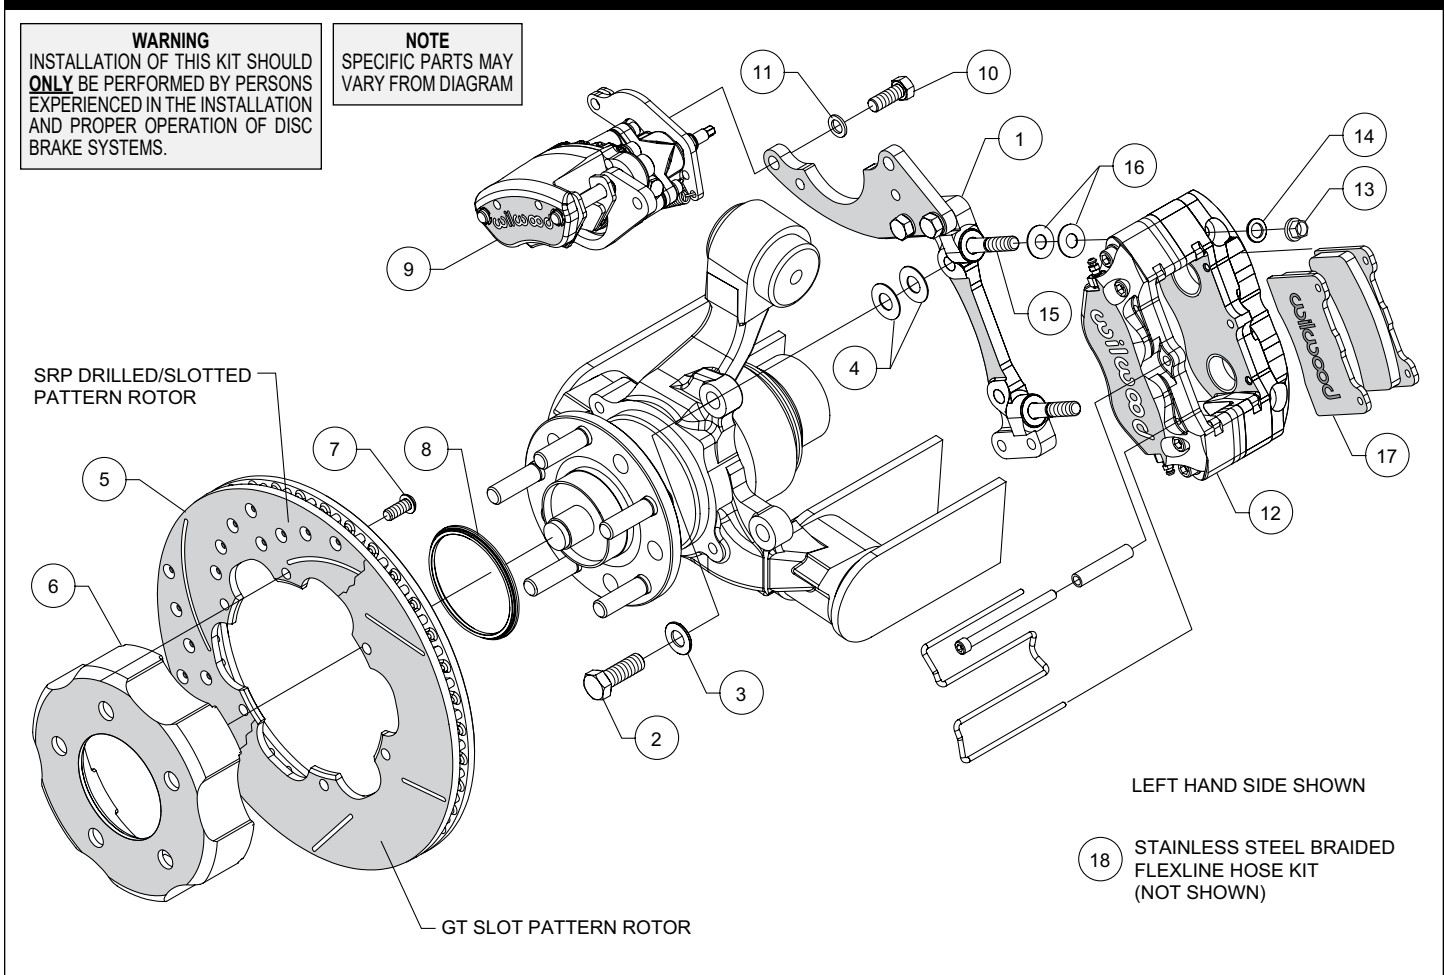

Figure 1. Typical Installation Configuration
NOTE: Numbers in parenthesis refer to the parts list and Figure 1 on the preceding pages.
•The caliper mount bracket (1) should initially be installed with clean, dry threads on the mounting bolts. Orient the bracket as shown in Figure 1, and Photo 1, and install using bolts (2) and washers (3). Initially place two .033" thick shims (4) on each bolt between the bracket and upright, Figure 1. Temporarily tighten the mounting bolts. **NOTE:** The bracket must fit squarely against the mount bosses on the upright. Inspect for interference from casting irregularities, machining ridges, burrs, etc. Later, after the caliper alignment has been checked, the mount bolts will be secured using red *Loctite*® 271.
•Orient the rotor (5) and the hat (6) as shown in Figure 1 and Photo 2. Attach rotor to hat using bolts (7). Apply red *Loctite*® 271 to the bolt threads and torque to 25 ft-lb using a criss-cross pattern.
•Slide the rotor registration adapter (8) onto the axle register on the hub assembly with the smaller O.D. facing outward, Photo 3. Slide the hat/rotor assembly (5/6) onto the axle hub. **NOTE:** The hat must fit flush against the axle hub flange or excessive rotor run out may result. Install three lug nuts (finger tight) to keep the hat/rotor assembly in place while continuing with the installation, Photo 4.
•Initially place two .035" thick shims (16) on each stud (15) as shown in Figure 1 and Photo 5. Mount the caliper (12) onto the bracket (1) using lock nuts (13) and washers (14), Figure 1. Temporarily tighten the lock nuts and view the rotor through the top opening of the caliper. The rotor should be centered in the caliper, Photo 6. If not, adjust by adding or subtracting shims (4) between the bracket and the mounting bosses. Always use the same amount of shims on each of the two mounting bolts. Once the caliper alignment is correct, remove the bracket mounting bolts one at a time, apply red *Loctite*® 271 to the threads, and torque to 60 ft-lb.
•Insert the brake pads (17) into the caliper with the friction material facing the rotor (5), as shown in Figure 1 and Photo 7. Check that the top of the brake pad is flush with the outside diameter of the rotor, Photo 8. If not, adjust by adding or subtracting shims (16) between the caliper and the bracket. After the caliper pad height is set, torque the caliper lock nuts (13) to 30 ft-lb. Secure the pads
•Mount the parking brake caliper (9) onto the caliper mounting bracket (1) using bolts (10) and washers (11), as shown in Figure 1 and Photo 10. Apply red *Loctite*® 271 to bolt threads, and torque to 30 ft-lb.
•**NOTE:** OEM rubber brake hoses generally cannot be adapted to Wilwood calipers. The caliper inlet fitting is a 1/8-27 NPT (use PTFE tape on pipe threads of adapter fitting for proper sealing to caliper). Install Wilwood's stainless steel braided flexline hose kit (18), P/N 220-15021 included with this kit. **Carefully route hoses to prevent contact with moving suspension, brake or wheel components.** **NOTE:** Be sure to attach the bracket for the fitting to the Factory Five Roadster chassis in a location which will allow full suspension travel and will not cause the line to have tension or be pinched, Photo 11. **NOTE:** Wilwood hose kits are designed for use in many different vehicle applications and it is the installer's responsibility to properly route and ensure adequate clearance and retention for brake hose components.